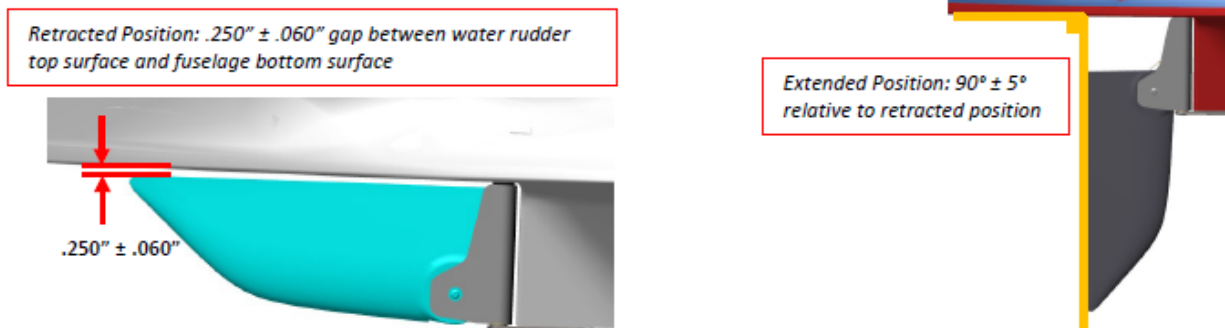

Figure 18. Water Rudder Rigging
4. Adjust the turnbuckles per rigging procedure **(Figure 18)**: